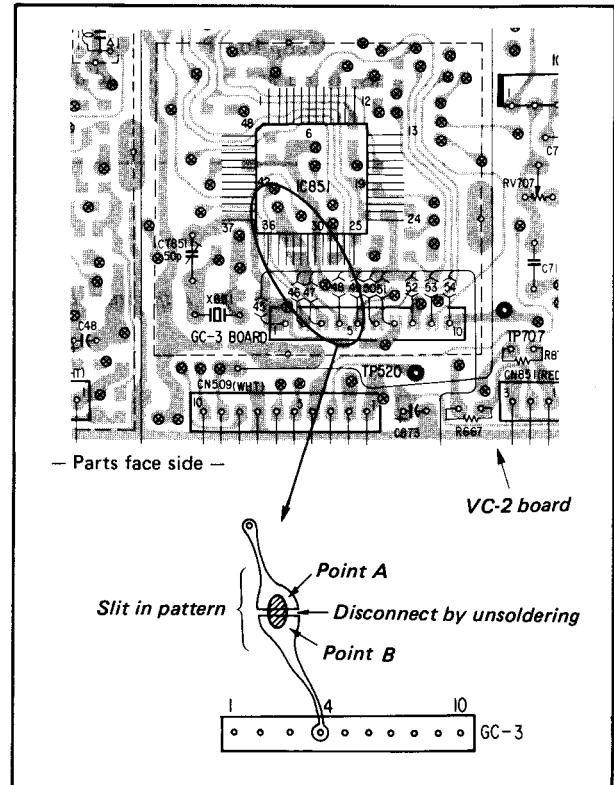

Fig. 2-38
- 1) Short pins ① and ② of IC651 (GC-3 board) together.
- 2) Disconnect points A and B on VC-2 board by unsoldering. (Fig. 2-38)